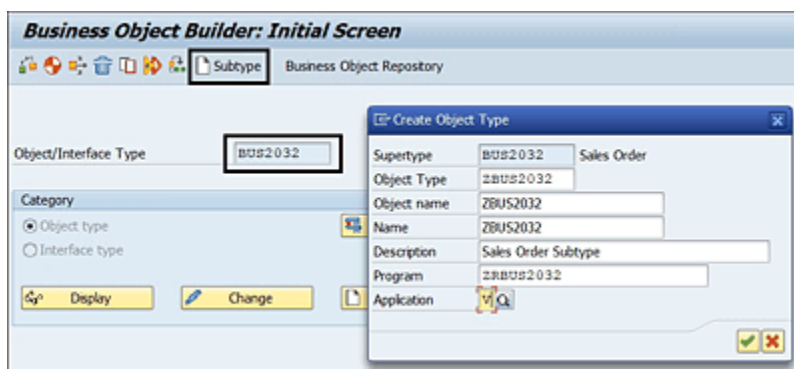

Figure 3.52 Creating a BOR Subtype Definition from Transaction SWO1
1. Enter the BOR supertype name in Transaction SWO1 in the **Object/Interface Type** field, and click on the **Create Subtype** button on the toolbar. Enter the subtype name, description, and program name details, as shown in Figure 3.52.